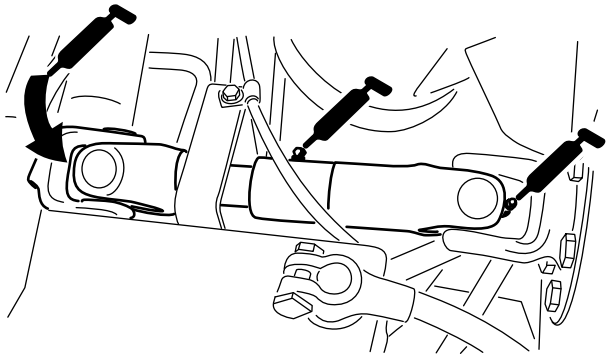

Figure 47
- Pump drive shaft U-joint (3) (Figure 47)